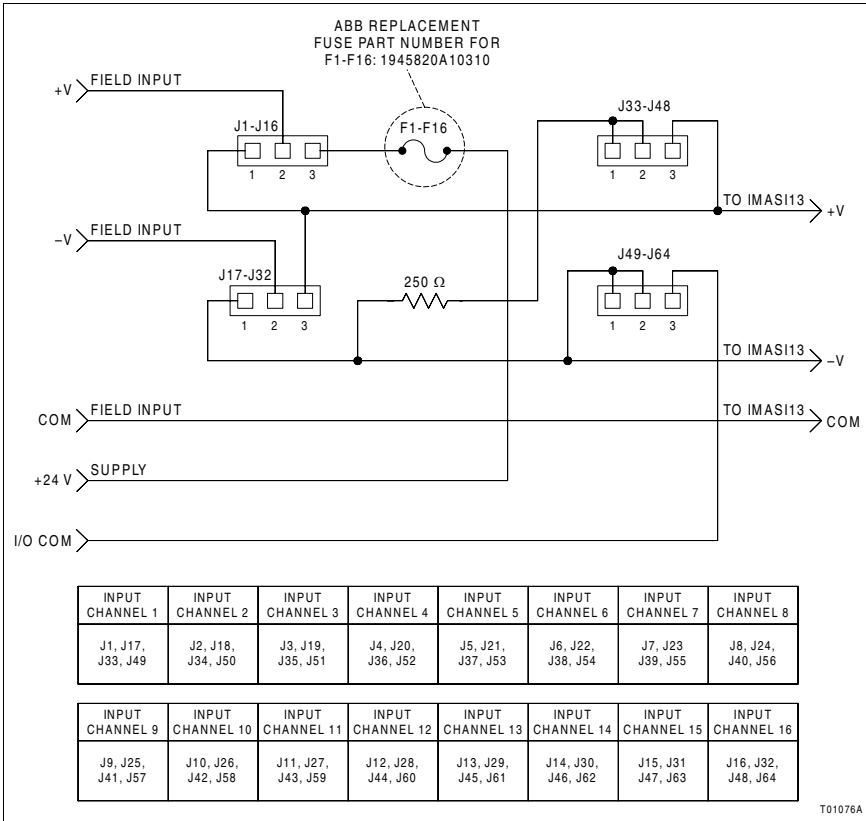
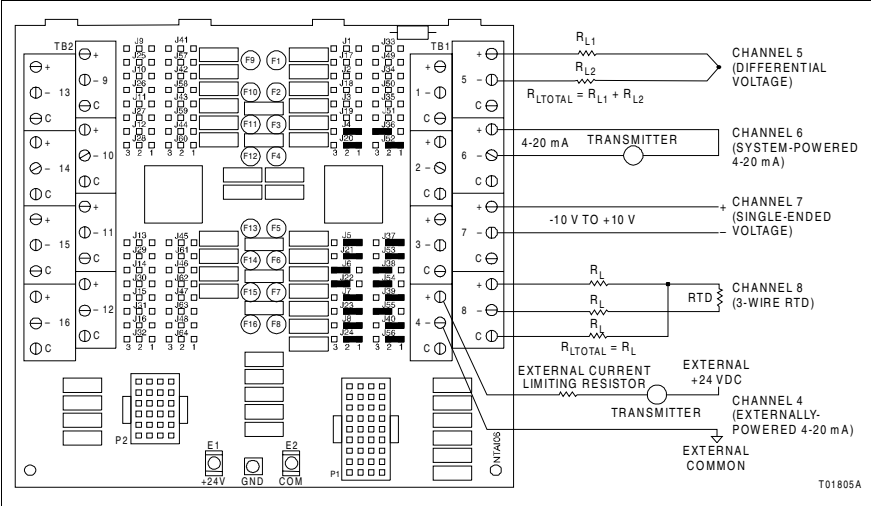
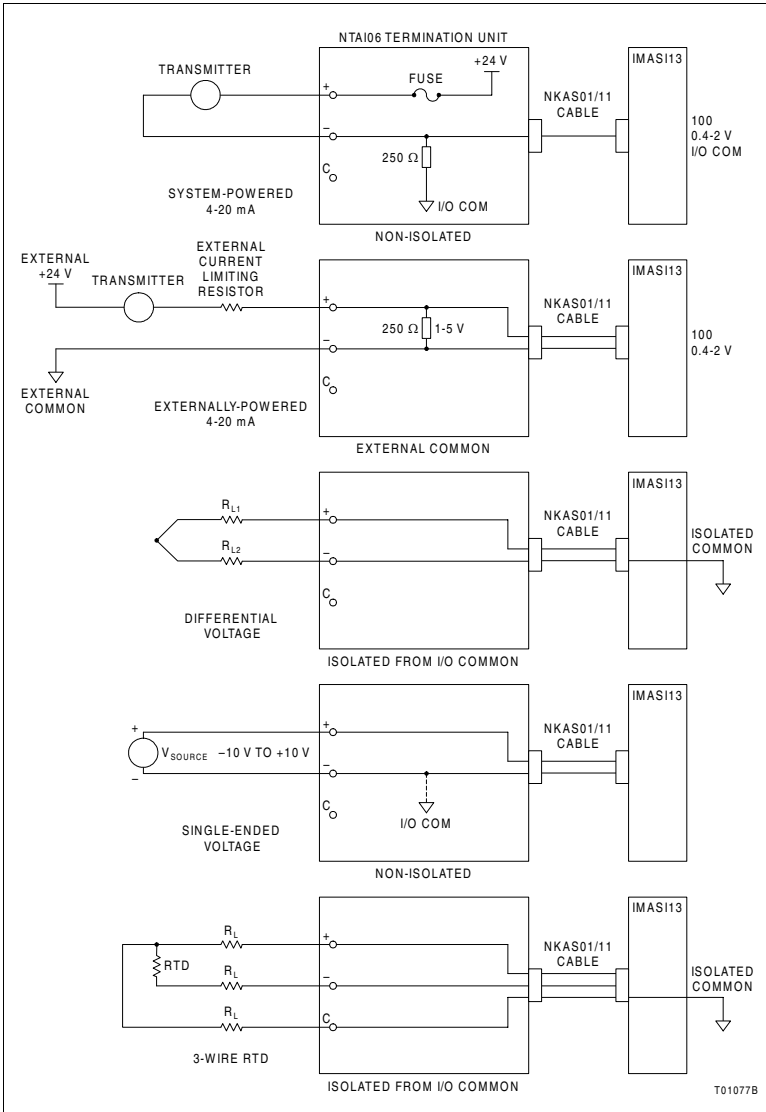

Figure A-3. NTAI06 Input Circuit
Figure A-4. NTAI06 Field Input Termination Examples
Figure A-5. IMAS13 Input Examples
Figure A-3 shows a typical input circuit and the jumpers used for each input. Figure A-4 shows field input termination examples for revision A and B hardware. Figure A-5 shows IMASIO3 input examples.
**NOTE:** Jumpers used by each input channel are listed with the terminal assignments in Figure A-3.
**NOTE:** The example in Figure A-4 is an NTAI06 termination unit with revision B hardware.